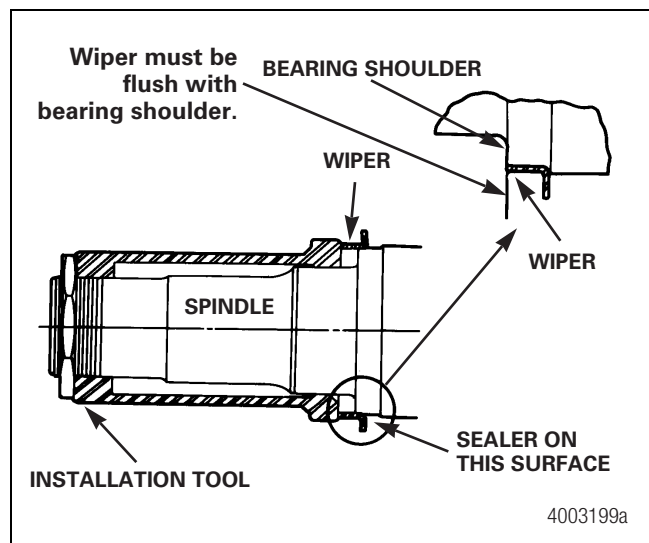

Figure 5.7
- If the seal incorporates a separate wiper, apply a thin coat of sealant around the axle oil seal collar. Then using an installation tool, drive the wiper onto the oil seal collar until its edge is flush with the bearing shoulder. Figure 5.7.